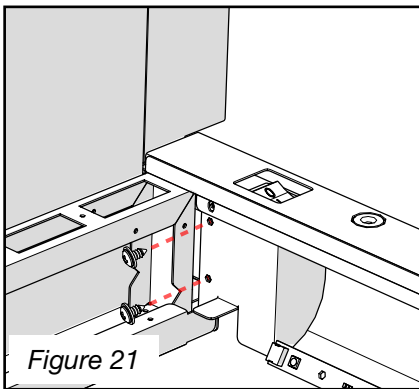

Figure 21
3. Remove the 2 screws on the power switch bracket. (Figure 21)